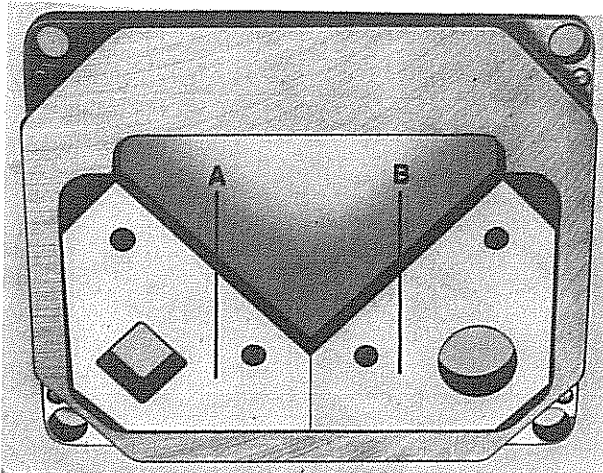

Fig. 27: Fixed sectional steel blade
- b) Dismount the inserted blades A, B, and C (Cf. fig. 27 and 28.)